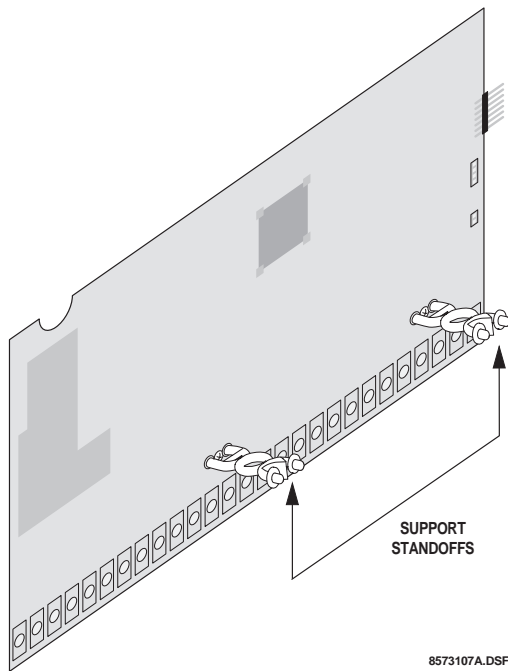

**Figure 16. Support Standoff**
- The panel includes two support standoffs you install to secure module backplates to the panel (see Figure 16).